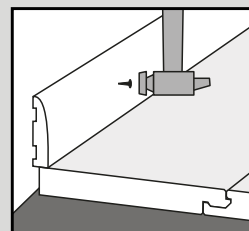

Fig. 9
10. Once the floor is installed, remove the spacers; sweep the floor with a soft brush. Fix the skirting or suitable edge trim (available from your local distributor) to cover the expansion gaps. These should be attached to the wall and not the floor, such that the product remains free to expand (Fig. 8 & Fig. 9).